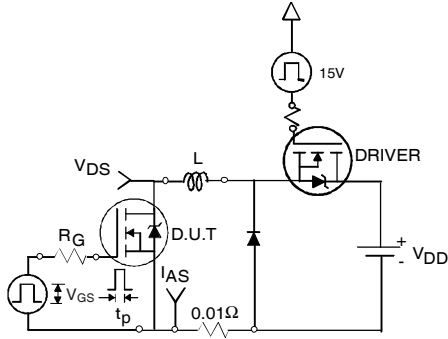

Fig 12a. Unclamped Inductive Test Circuit
- ③ Pulse width $\leq 1.0\text{ms}$; duty cycle $\leq 2\%$.
- ④ C_{OSS} eff. is a fixed capacitance that gives the same charging time as C_{OSS} while V_{DS} is rising from 0 to 80% V_{DSS} .
- ⑤ Limited by T_{Jmax} , see Fig.12a, 12b, 15, 16 for typical repetitive avalanche performance.
- ⑥ This value determined from sample failure population. 100% tested to this value in production.
- ⑦ When mounted on 1" square PCB (FR-4 or G-10 Material). For recommended footprint and soldering techniques refer to application note #AN-994
3. Equation below based on circuit and waveforms shown in Figures 12a, 12b.